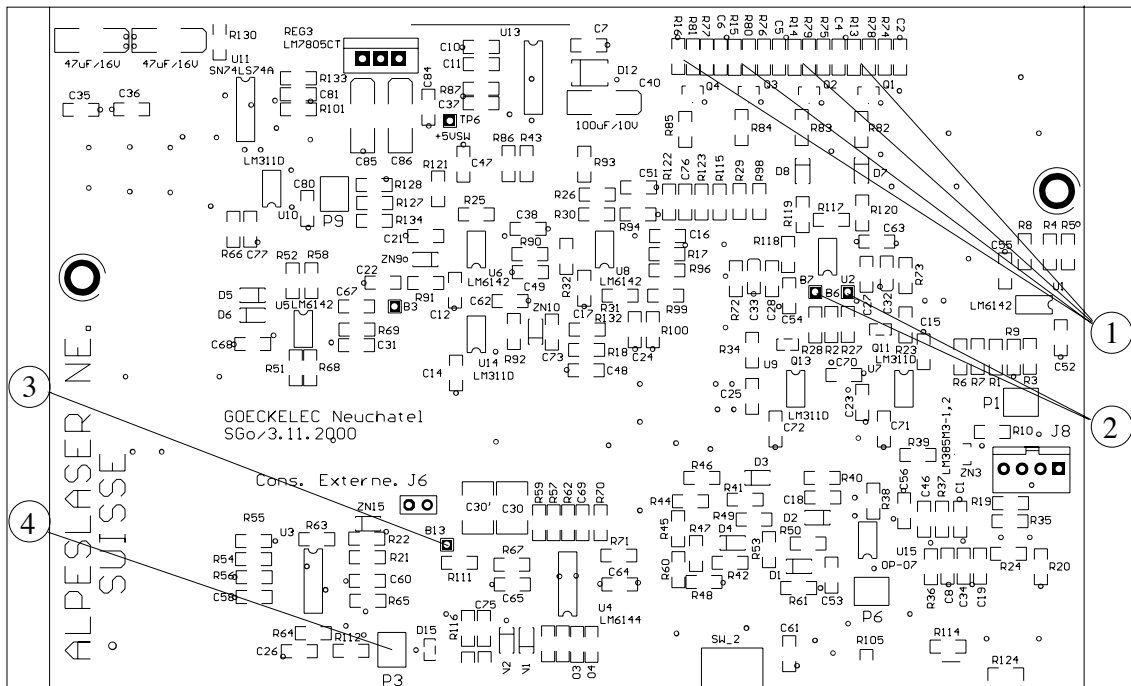

Figure 7.12.: TCU main board (view I).
5. Temperature Reference offset adjustment (refer to figure 7.12)
- a) Adjust **B13** (3) to **0.000** with **P3** (4)